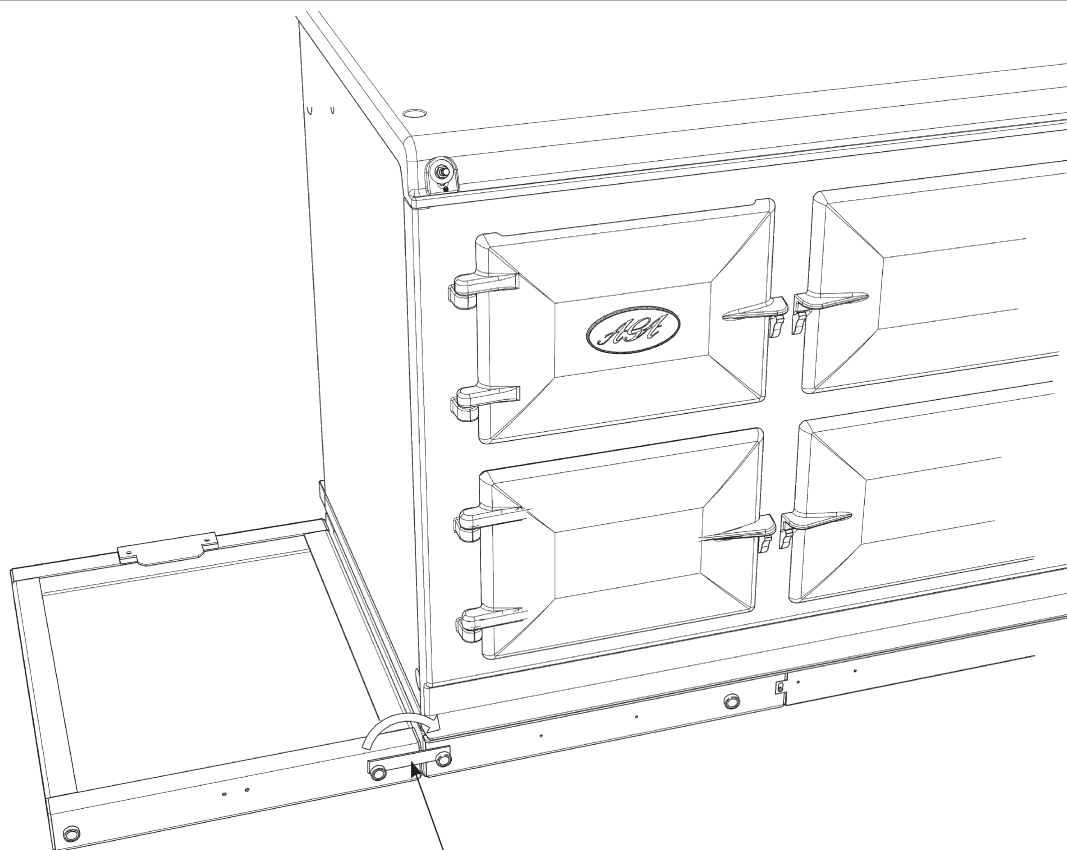

Fig. 31.6
5. Front jointing bracket can now be hooked into place over the two pot magnets. This will latch the two plinths together. (**Fig. 31.6**)